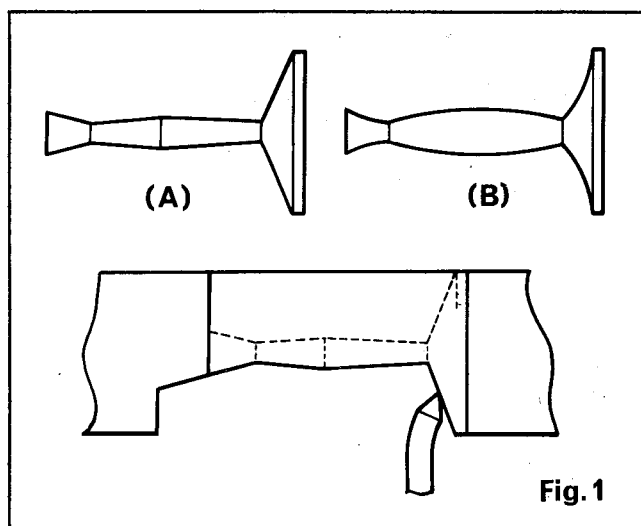
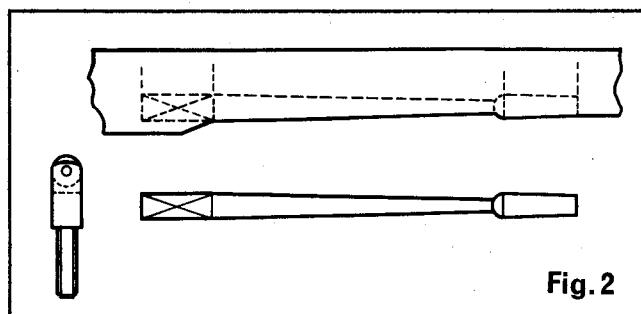

Fig. 1
Fig. 2
Illustrated above (Fig.1) is a shape which could be a miniature brass candle stick or the standard for a table lamp, (A) formed in straight line tapers and (B) in gentle curves, but both embracing similar gradients. If the sketch represents a miniature candlestick in brass two diameters would be joined together to save material. The master and component would be presented to the lathe just as you are looking at the sketches. Fairly high periphery speeds and a slow feed would be needed so that the cut per revolution would be small as the stylus goes downhill on the plinth. A little help may be needed to keep the tool in contact with the workpiece because of the steepness of the plinth and its subsequent resistance whilst roughing the shape.
The type of work and its accuracy when copying will decide the type of stylus to use. A small ballrace stylus and a mild steel rod stylus are supplied with the unit. The rod stylus has a 60° inclusive ball radius point. This type of stylus will follow faithfully every angle permissible and will ride into and out of an almost sharp intersection point of two angles, therefore it is ideal for accurate tracing. The ballrace stylus is supplied mainly for use with the taper turning plate but is the logical choice for masters that only have one angle e.g., a buffing mop spindle. Looking again at Fig.1 (A & B) it will be obvious that if these sketches were for a table lamp standard and the reproduction from the master did not have to be absolutely identical, the ballrace stylus would be the first choice. The ball race diameter is 13 mm so where a component can be designed with runouts or intersection points with not less than 6.50 mm radius then this is the stylus to use. This is shown in another typical example (Fig.2).